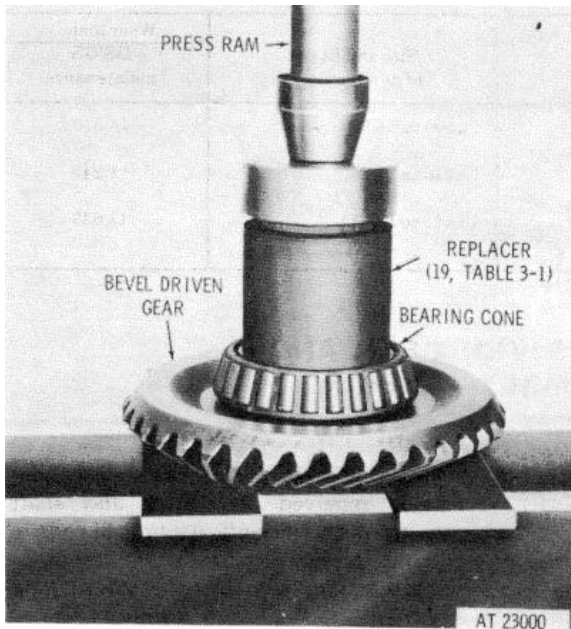

Figure 7-17. Installing bearing inner race onto bevel driven gear
a. If the right bearing race was removed from the bevel driven gear, heat the race to approximately 2500 F. Using replacer (19, table 3-1), press the race onto the gear (fig. 7-17).